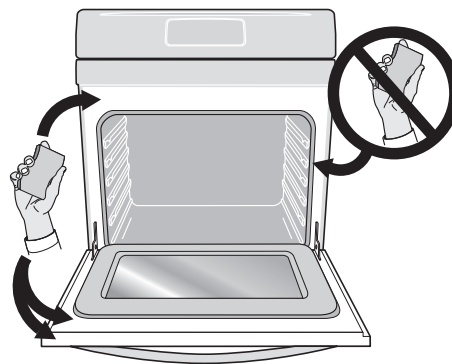

Figure 25: Oven door area to clean and not clean (gasket).
- Clean any soil from the oven frame, the door liner outside the oven door gasket and the small area at the front center of the oven bottom (Figure 25). These areas heat sufficiently to burn soil on. Clean using soap and water prior to starting Self Clean.
- Do not clean the oven door gasket (Figure 25). The woven material of the oven door gasket is essential for a good seal. Care should be taken not to rub, damage or remove the gasket. Do not use any cleaning materials on the oven door gasket. Doing so could cause damage to the door gasket.